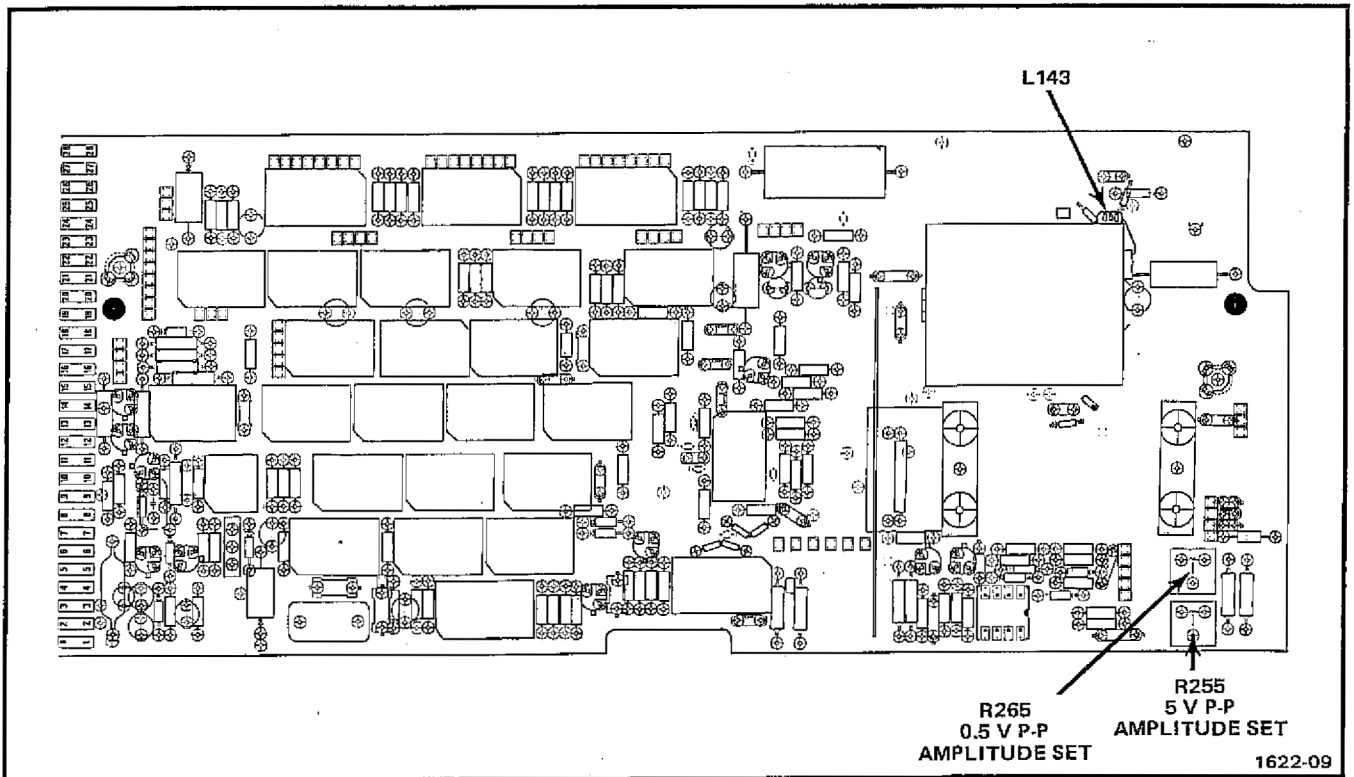
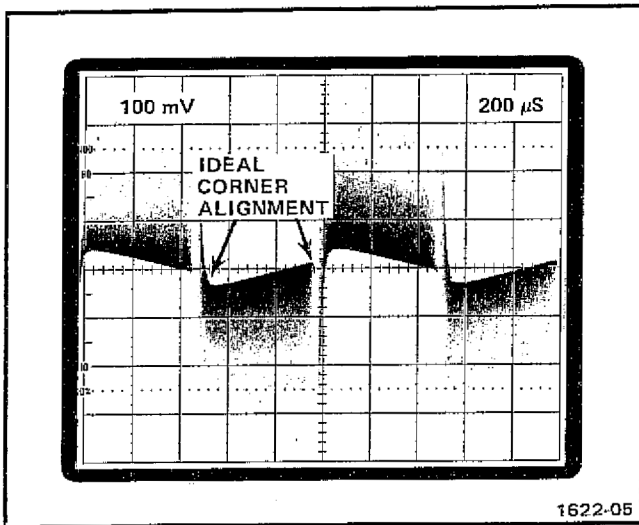

Fig. 3-2. Location of L143, 0.5 V P-P, and 5 V P-P Amplitude Set.
Fig. 3-3. Display of complex waveform (idealized) obtained when the amplitude set controls are properly adjusted at 0.05 MHz.
d. Set the time-base triggering controls for a stable display; a crt display similar to Fig. 3-3 is obtained.
e. Check—that the corners of the idealized waveform are aligned as illustrated in Fig. 3-3. Disregard waveform tilt.
f. Adjust—5.0 P-P Amplitude Set, R255, so the corners of the idealized waveform are aligned as illustrated in Fig. 3-3. See Fig. 3-2 for adjustment location.
i. Check—that the waveform is similar as illustrated in Fig. 3-3.
j. Adjust—0.5 V P-P Amplitude Set, R255, so the corners of the idealized waveform are aligned as illustrated in Fig. 3-3. See Fig. 3-2 for adjustment location.
- c. Check—that the corners of the idealized waveform are not separated by more than 1.5 vertical divisions. See Fig. 3-3 for waveform illustration.
- g. Check—that the corners of the idealized waveform are not separated by more than 1.5 vertical divisions. See Fig. 3-3 for waveform illustration.
e. Adjust—L143, (physically moving coil), to meet the suppression requirement as given in part d of this step. See Fig. 3-2 for adjustment location.